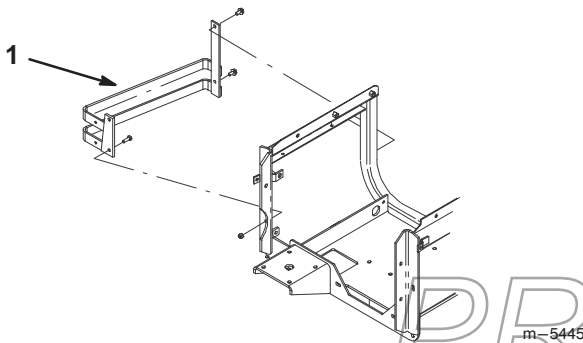

Figure 1
1. Remove bumper from the machine (Fig. 1).